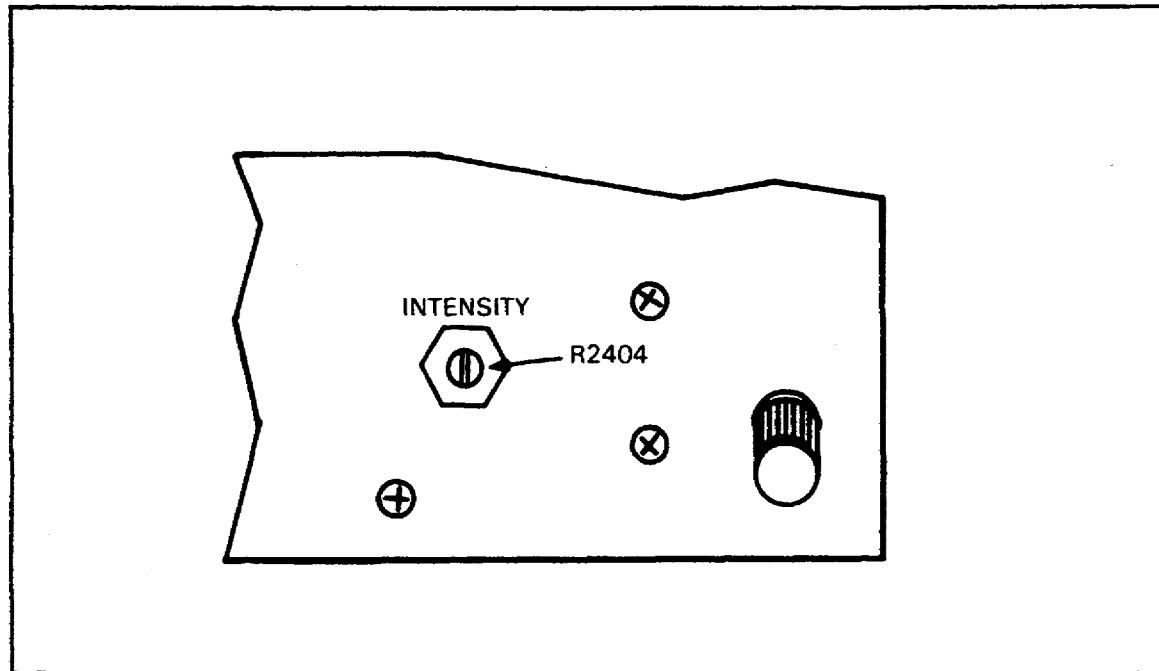

Figure 12. Intensity control.
c. Rotate intensity control R-2404, clockwise (cw) until sweep is visible on the cathode ray tube (CRT). (See Figure 12.)